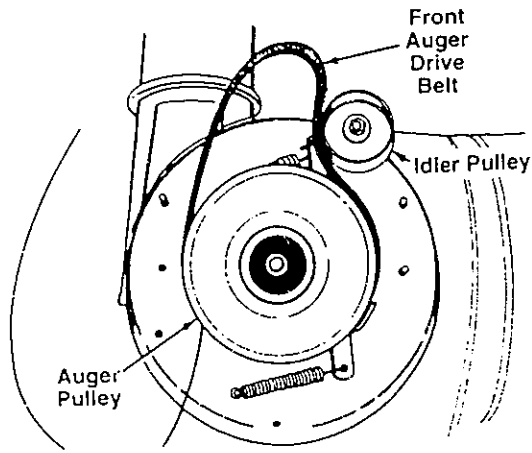

FIGURE 27
- To remove the front auger drive belt, push the idler pulley to the left, and lift front auger drive belt from the front auger pulley. See figure 27. Replace both auger drive belts by following instructions in reverse order.
NOTE: When reassembling the two halves of the unit, the auger drive cable must be routed through the cable roller guides as shown in figure 27.